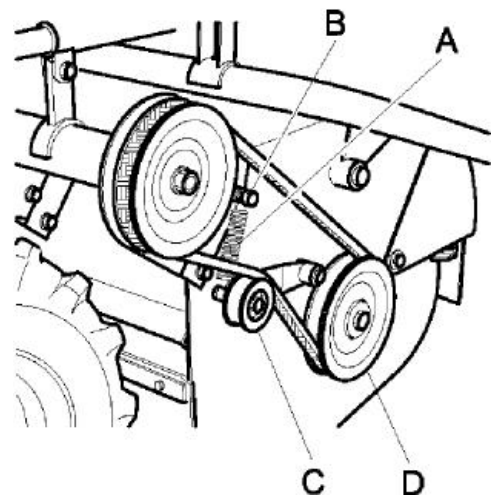

Figure 10
- pull the spring (Ref. A Fig. 10) off the upper connecting screw (Fig. 10 Ref. B) , so that the belt tightener (Ref. C Fig. 10) remains free and lowers automatically.
- slip the belt off by turning the lower pulley in an anti-clockwise direction using your hand (Ref. D Fig. 10).